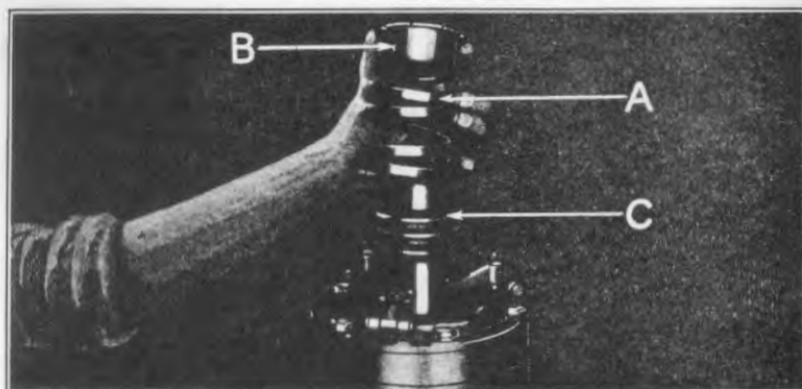

Fig. 317
- 554 The new clutch spring is installed by positioning clutch spring (See "A" Fig. 317) and clutch spring support "B" over drive plate shaft against clutch shift "C" and lining up the hole in support with hole in drive plate shaft; compress the spring and support with a spring compressor until the pin hole in the drive plate assembly is in line with hole in support. The clutch spring support pin can now be